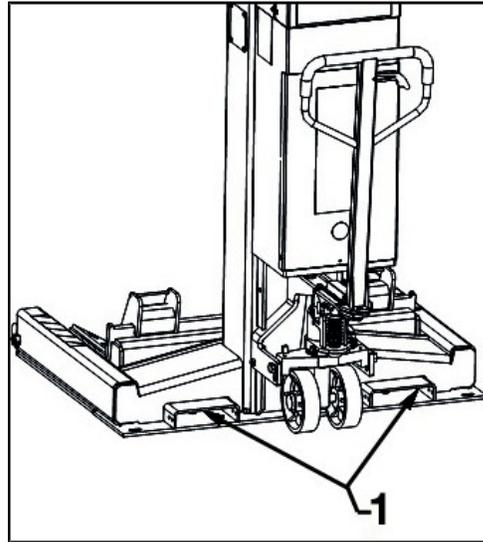

Fig. 15: Forklift pocket locations
- i** You can move the lift unit by forklift, using the two forklift pockets (Fig. 15) provided on each lift unit.